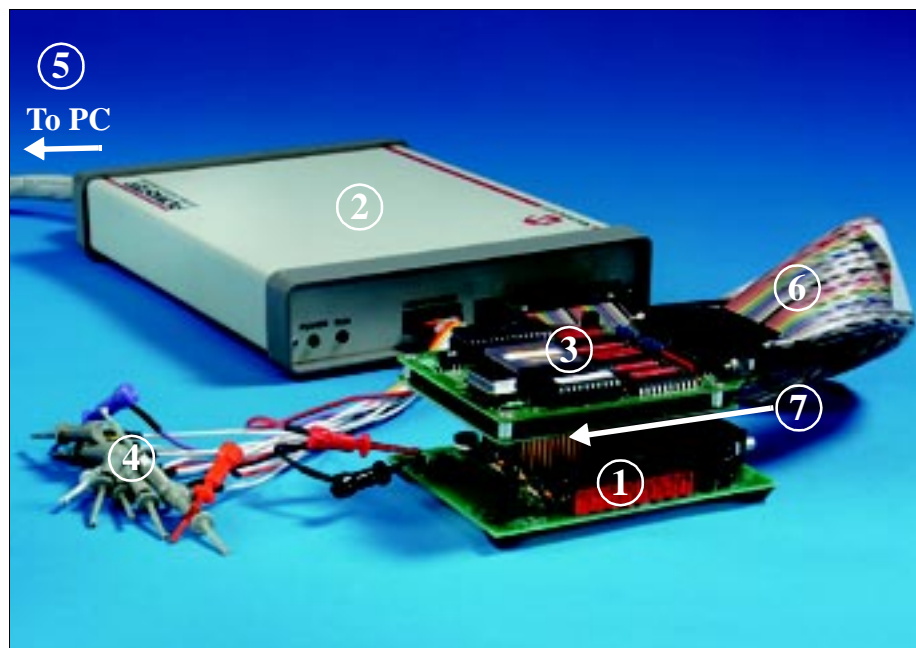

Figure 2.3: PICDEM-1 with the PICMASTER Emulator
- Connect the appropriate probe to the PICMASTER pod using the ribbon cable provided (6 of Figure 2.3). For information on which probe to choose, refer to the *PICMASTER Probe Specification*.
- Connect the PICMASTER header probe to the appropriate socket on the PICDEM-1 using a connector (7 of Figure 2.3). Example: If you are emulating the PIC16F84, connect the 18-pin header on the probe card to the 18-pin socket on PICDEM-1 (U2).